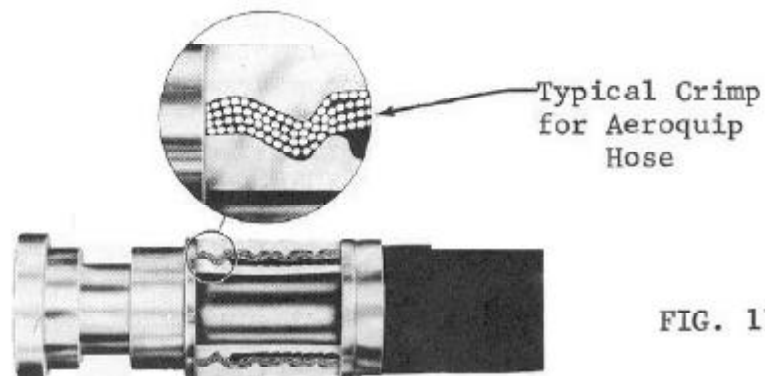

FIG. 11
6. The hydraulic motor on the vibrator requires a drain line to relieve case pressure inside the motor. The back-to-tank motor drain line has a safety relief valve and a low 3 psi cracking pressure check valve (free flow to tank) located close to the hydraulic motor on the Vibrator, Ref. Fig.11, Page 20. The "blow off" relief valve setting recommended is 40-50 psi to protect the motor seals and interior components. If this pressure is surpassed by a kink in the line or incorrect connection at the power unit tank or any resistance of flow to tank, oil will spill at this relief valve.